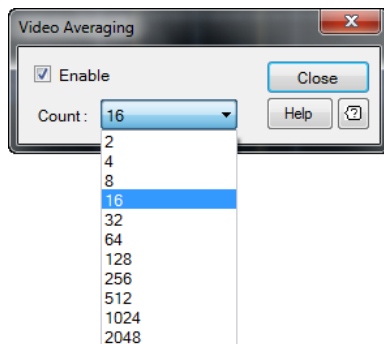

Figure 2-31 Averaging count selection on the Averaging dialog
- 4 To change the average count, select the **Count** field on the Averaging dialog to display the count selection as shown in Figure 2-31.